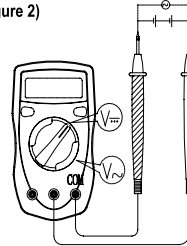

Figure 2
A. DC Voltage Measurement (see figure 2)
B. AC Voltage Measurement (see figure 2)